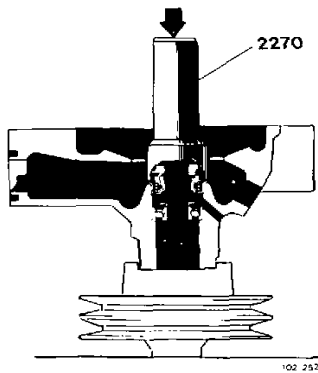

Fig. 202. Fitting the seal
12. Fit the deflector ring with the flange facing away from the bearing and press in the shaft seal against the seat using drift 2270 (fig. 202).